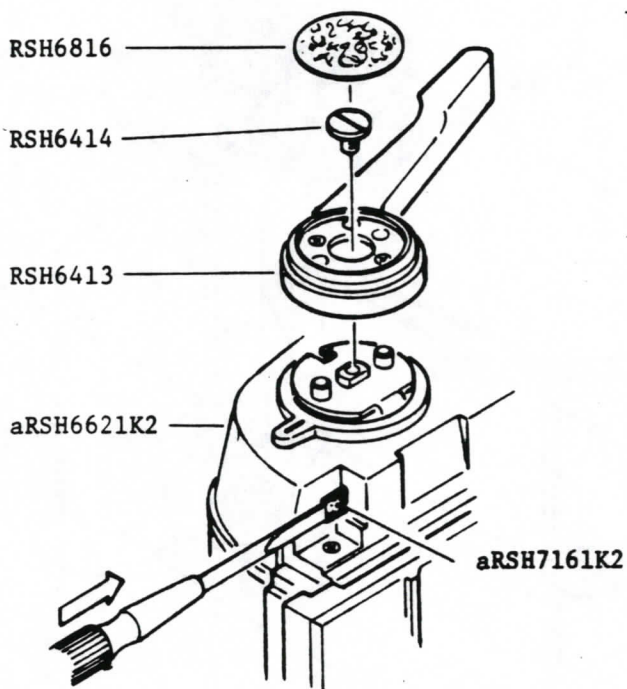

Fig. 99
- (1) Remove Winding lever (RSH6413) and Top cover retaining screws (PB1.7x3, PB1.7x4).
- (2) Remove Top cover (aRSH6621K2) pushing Preventive lever assy. (RSH7161K2) with a screw driver as shown in Fig. 99.